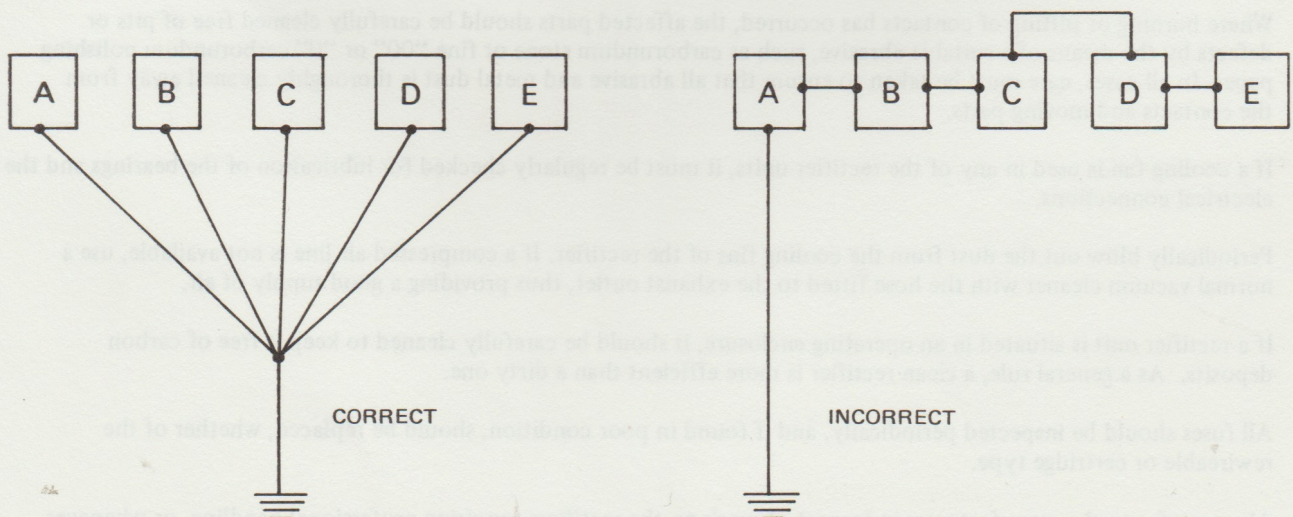

Fig. 2
- If separate earthing of several components of a sound system is necessary for operational reasons, then the various earth connections required should be taken to a single point of the earth lead in star configuration. (Fig. 2)